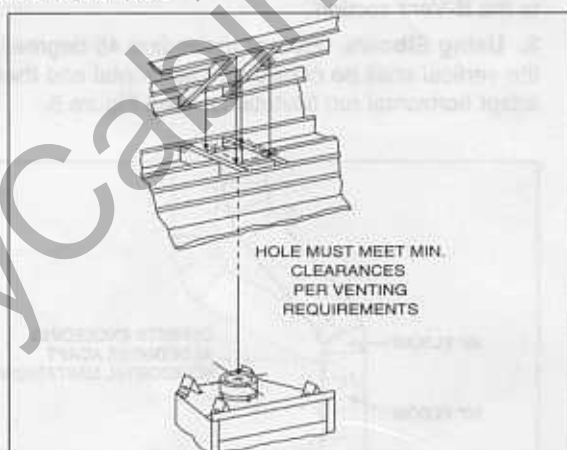

Figure 6
7. Marking the exit point in the roof. Locate the point where the venting will exit the roof by plumbing down to the center of the vent system. Drive a nail up through the roof to mark the center. See Figure 6.